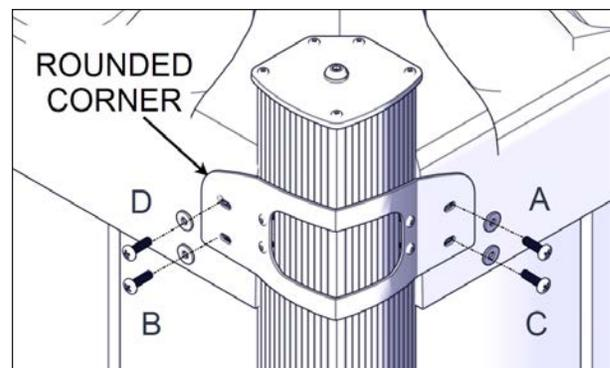

FIGURE 65: INSTALLATION PATTERN FOR CORNER BRACKET SCREWS ATTACHED TO THE COVER
- Install the first outer corner bracket as shown in Figure 65. Fasten the bracket to the cover
with four painted Phillips M6 x 20mm bolts and 1/4" painted washers. Install the first screw on position A and for the remaining screws, keep following the pattern shown in Figure 65.